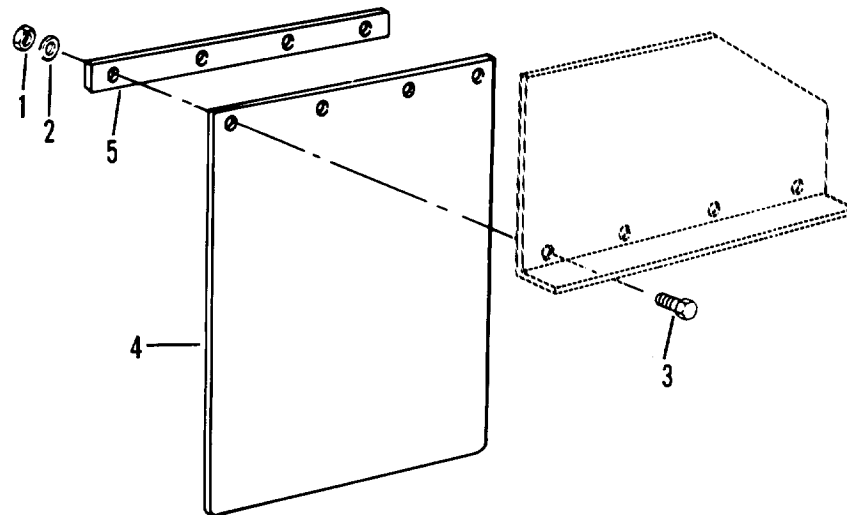

Figure 4-53. Splash guard
- (1) Remove four nuts (1, figure 4-53), washers (2) and screws (3) from splash guard (4).
- (2) Remove backing strip (5) and splash guard (4).
- (1) Position splash guard (4, figure 4-53) and backing strip (5).
- (2) Secure splash guard (4) with four screws (3), washers (2) and nuts (1).